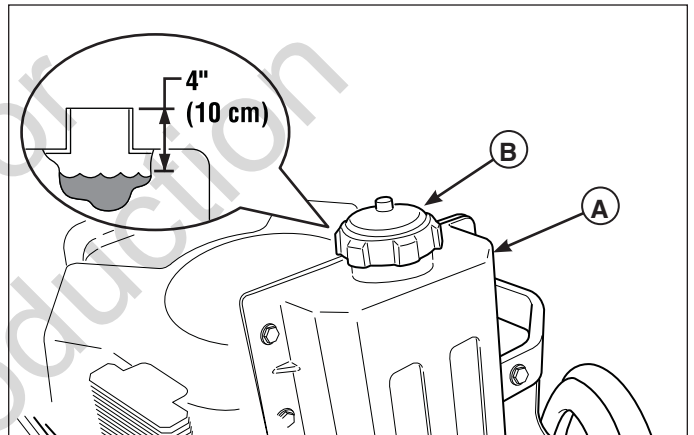

Figure 13. Checking Hydraulic Oil Level
2. Unscrew the reservoir cap (B, Figure 13).
3. Look down the filler neck of the hydraulic oil reservoir (A, Figure 13) and observe the oil level. When cold, the oil level should be approximately 2-1/2" (6,4 cm) below top of the filler neck.